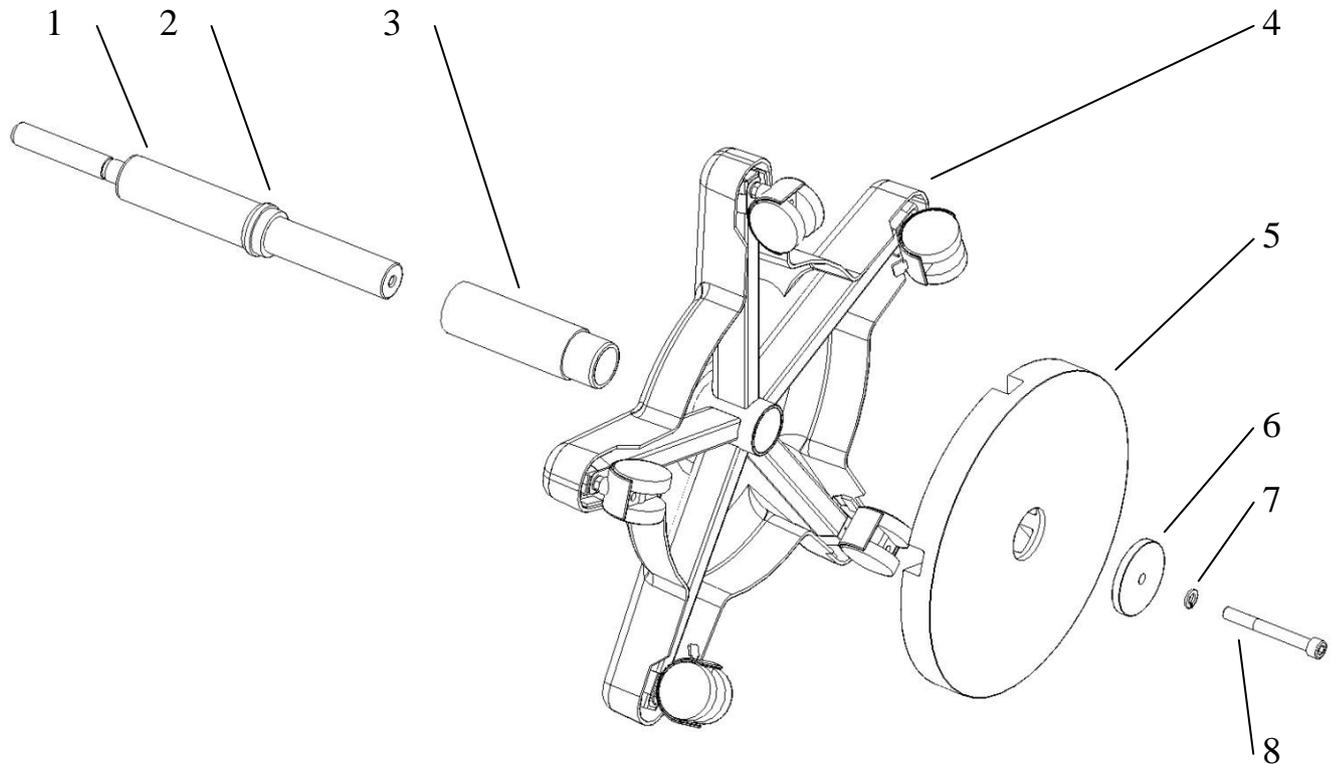

Figure 4 – Assembly diagram tripod.
- 2) Put the load 5 onto the wheeled support 4 in the direction shown at figure 4, avoiding blows, falling down and damage of the paint-and-lacquer coating.
3) Put the pole 1 with the coupling piece 2 and insert 3 (fig. 4) on the wheeled support 4 and fasten it using the washer 6, spring washer 7 and the screw 8 with the help of the delivered wrench. Carefully put the assembled stand on the floor.